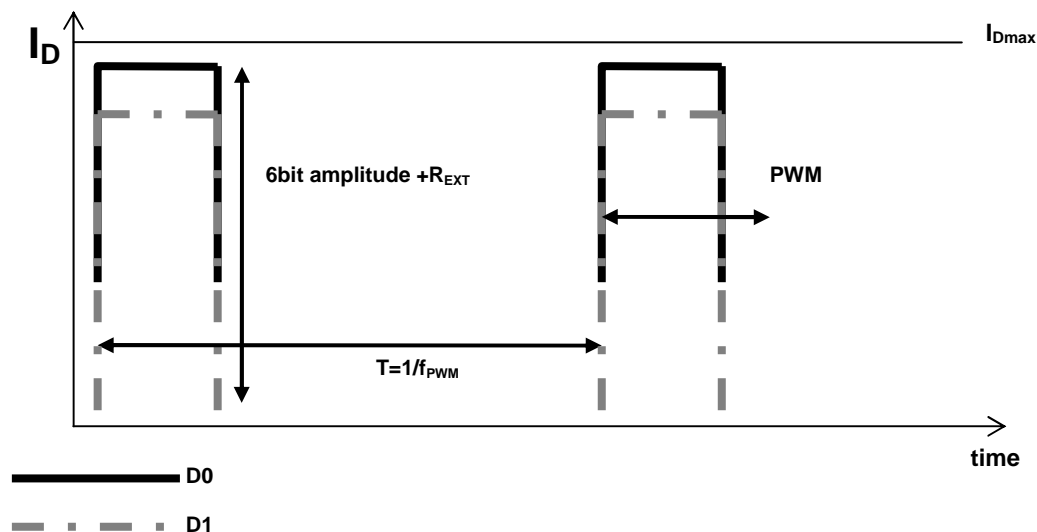

Figure 9. Illustration of Calibration and dimming of Output Current
**Figure 9. Illustration of Calibration and dimming of Output Current** describes the relation between calibration and dimming. The maximum current,  $I_{Dmax}$ , is set by the reference resistor,  $R_{EXT}$ . Setting the calibration bits will change the value of the switched current in the corresponding channel whilst controlling the PWM\_B/OEN\_B input will modulate the current in all active channels in the time domain.